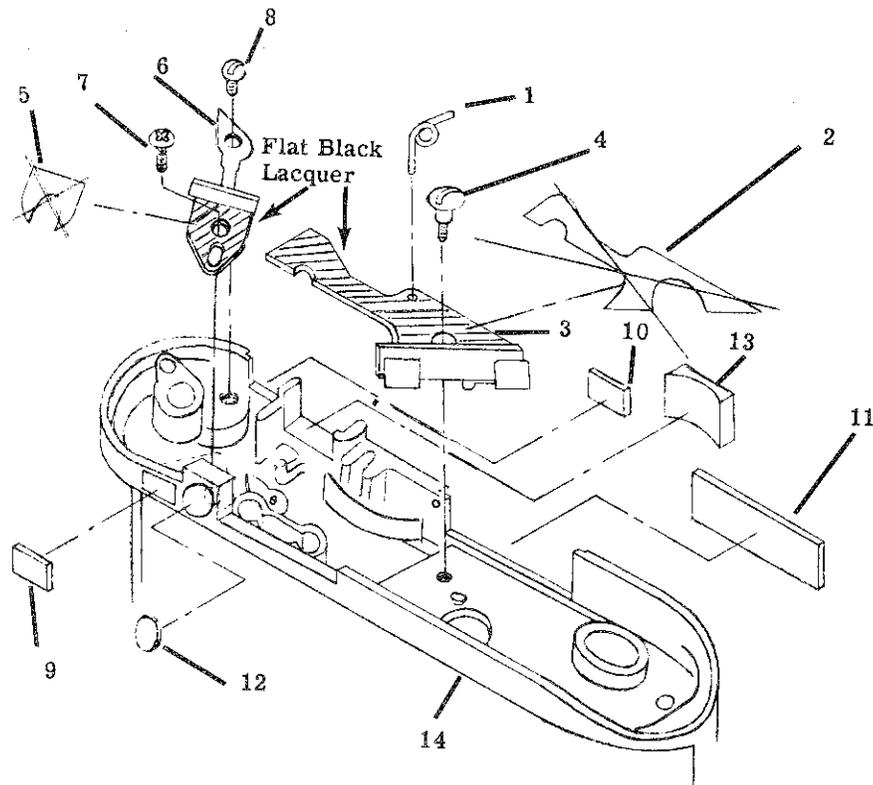

Figure 3. Rangefinder and Viewfinder, Exploded View
d. From the camera body assembly (25), remove the counter dial shaft (11), spring (12), and viewfinder mask (13). On earlier model cameras, remove the contact springs (14) and (15). Remove the contact insulator (16) and the insulator plug (17). On current model cameras, remove washers (20) and contact plugs (18) and (19); the shutter wires are not soldered to the camera body contacts and can be removed easily.
e. If necessary, remove the lens mount cover (22) and retaining spring (23) by removing the two screws (24).
5.2. Rangefinder and Viewfinder Disassembly (Figure 3).
a. If necessary, remove viewfinder lenses (12 and 13, figure 3) and optical glass (9), (10) and (11).
b. Remove the rangefinder spring (1).
c. Remove screws (4), (7) and (8). Lift the fixed mirror assembly (6) and the triangulating mirror assembly (3) from the body assembly (14).